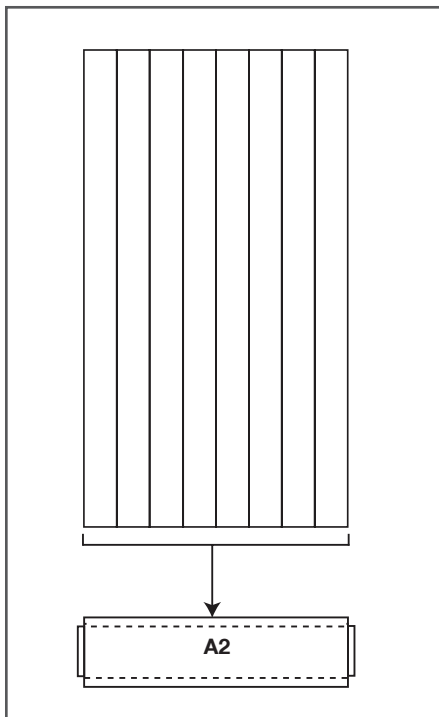

Figure 2
2. Place the bottom rail (A2) below the assembled slats. Slide upward to cover the lower edge of the slat assembly. Tap the bottom rail into place with a rubber mallet (Figure 2).